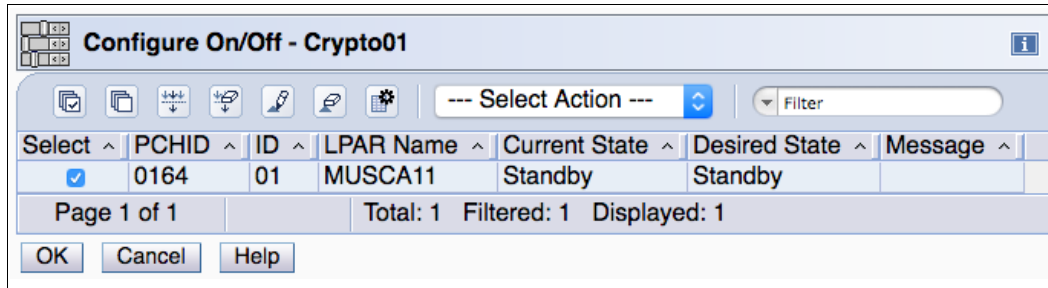

Figure 10-23 Config On/Off (Standby)
- Select the cryptographic coprocessor channel number that you want, and then, click **Select Action** → **Toggle** to switch from Standby to Online (see Figure 10-23). If you want multiple cryptographic channels at the same time, select **Toggle All On**.